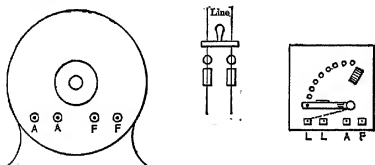

FIG. 225. Shunt motor, line and four-point starting box.
**Prob. 19-9.** In Fig. 225, connect the shunt motor, line and box.